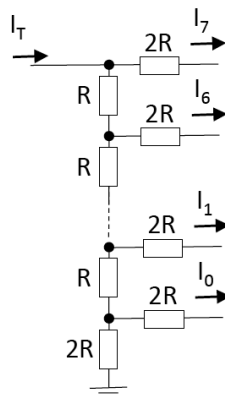

Figure 1.3
- (c) *Figure 1.3* shows an R-2R ladder network used in an 8-bit Digital-to-Analogue Converter (DAC). Show that, under certain assumption, the current I_k at the k^{th} branch is given by: $I_k = 2^{k-8} I_T$. State the assumption.